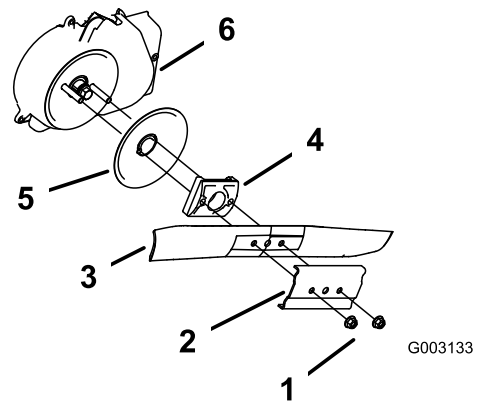

Figure 40
- Remove the 2 blade nuts and the stiffener (Figure 40).
- Remove the blade (Figure 40).
- Remove the blade driver and disk (Figure 40).
- Remove the blade-brake-clutch shield (Figure 40).
- Install the blade and the stiffener that you previously removed (Figure 40).